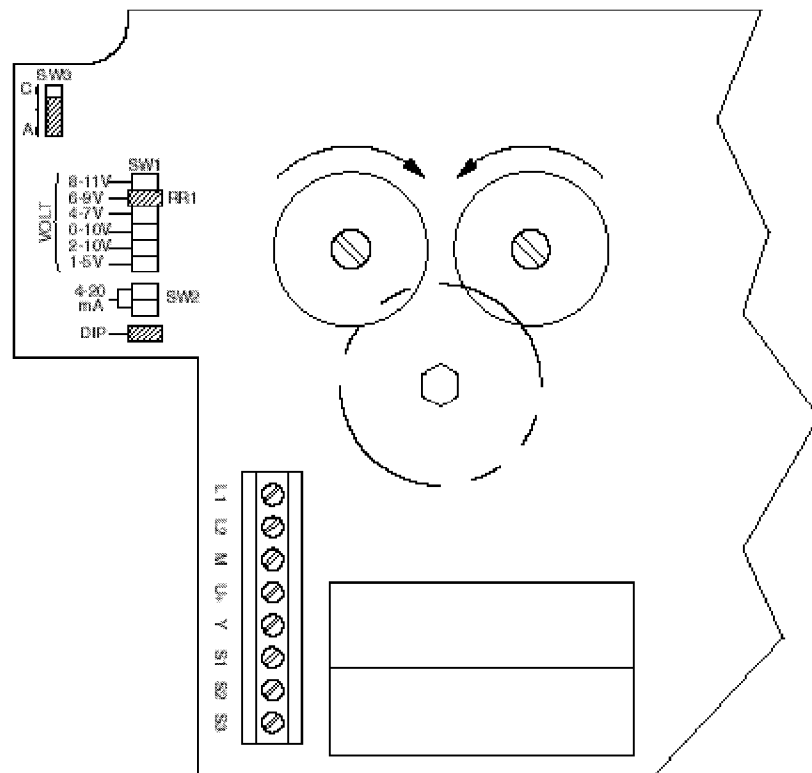

Figure-10 Circuit Board Diagram.
2. Place the jumper over the pins of SW1 at the desired voltage range position. Refer to Figure-10.
1. Remove the jumpers from SW1 and the Dip position. Refer to Figure-10.
4. Verify SW3 jumper is in the factory setting. Refer to Figure-10 and Table-4.
10. Set jumpers and control signal as required to by application specifications. Refer to Figure-10.